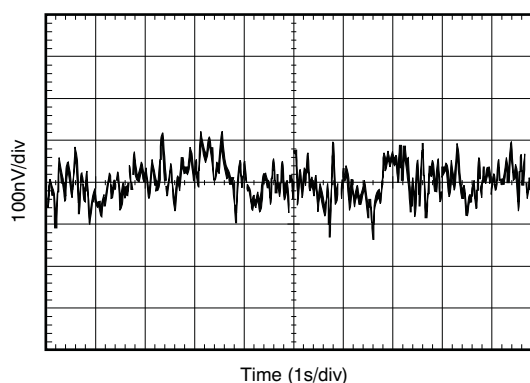

Figure 9.
0.1Hz to 10Hz Noise	<a href="#">Figure 9</a>